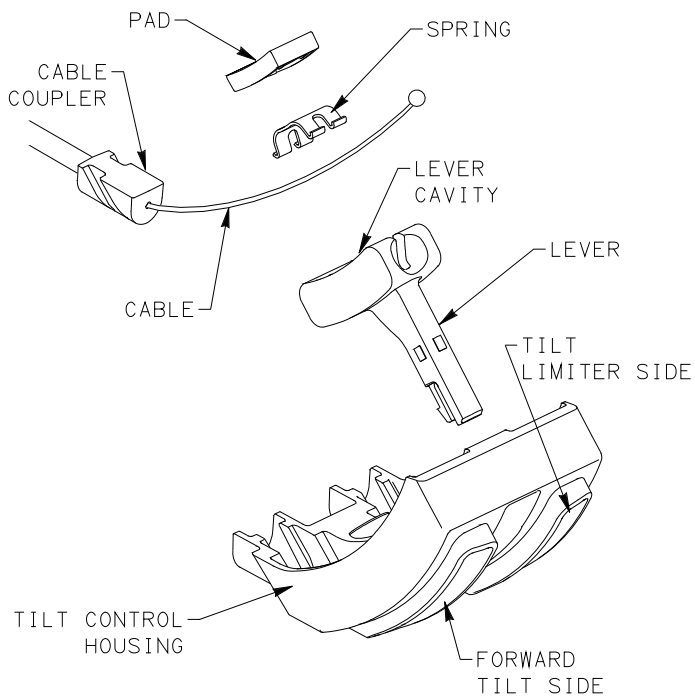

FIGURE 15
11. REMOVE AND SET ASIDE PAD AND SPRING FROM LEVER. REMOVE CABLE FROM LEVER. PROPERLY DISPOSE OF LEVER. SEE FIGURE 15.
12. INSTALL REPLACEMENT LEVER INTO TILT CONTROL HOUSING USED FOR TILT LIMITER CONTROL. SLIDE CABLE COUPLING INTO TILT CONTROL HOUSING AND SLIDE CABLE INTO LEVER. INSERT SPRING OVER CABLE INTO CAVITY OF LEVER. PLACE PAD OVER SPRING. REPEAT PROCEDURE IF CHAIR WAS MANUFACTURED WITH FORWARD TILT OPTION. SEE FIGURE 15.
14. PUSH PNEUMATIC KNOB ONTO LEVER OF PNEUMATIC CONTROL UNTIL "CLICK" IS HEARD, INDICATING KNOB HAS LOCKED IN PLACE. SEE FIGURE 15.